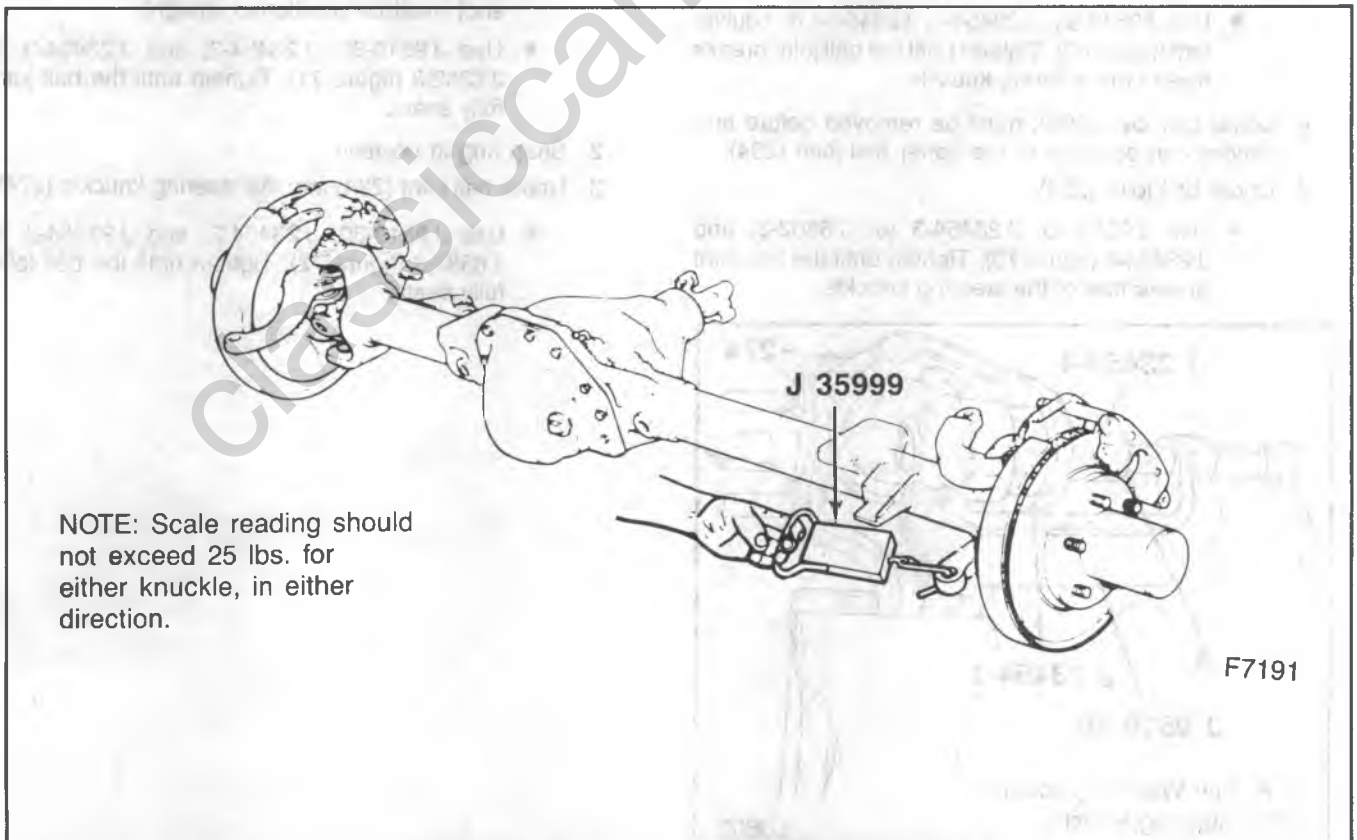

Figure 68 — Checking Ball Joint Turning Effort
- Apply J 35999 or equivalent spring scale to the tie rod mounting hole of the steering knuckle arm (figure 68). With the knuckle assembly in the straight-ahead position, determine the right angle pull required to keep the knuckle assembly turning after initial breakaway. This pull should not exceed 25 lbs, for each knuckle assembly, in either direction. Refer to "Steering Knuckle and Arm" and figure 60 for adjustment, if necessary.